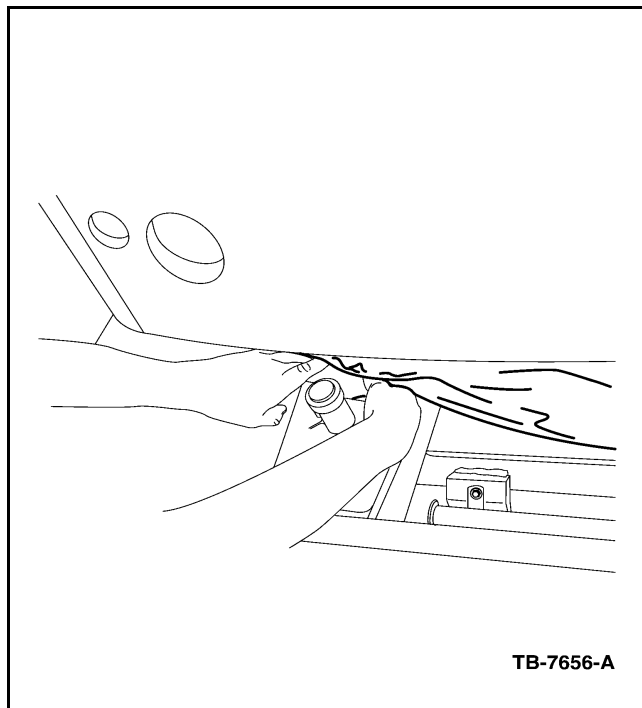

Figure 6 - Article 03-18-4
11. With the top in place, tuck the lower passenger side corner of the splash shield behind the windshield washer fluid reservoir (Figure 6).